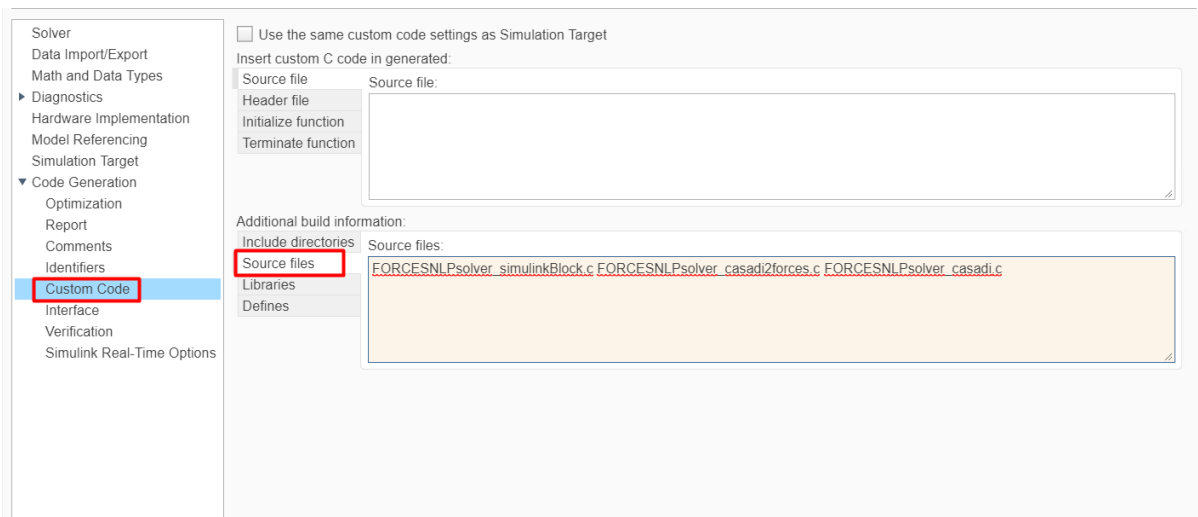

Figure 13.97: Add the source files used for the code generation.
11. (Figure 13.97) In the “Code Generation/Custom Code” tab, add the source files: